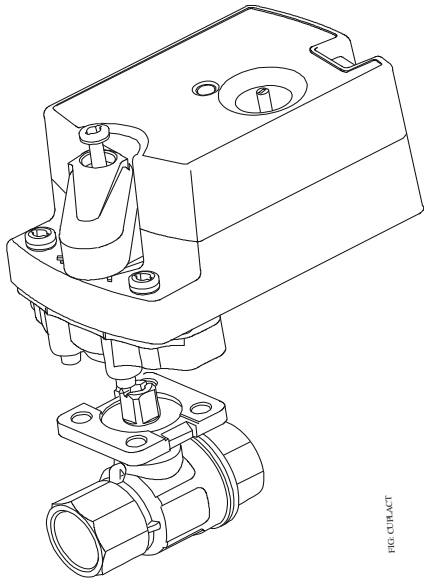

Figure 13: Coupling the Actuator to the Valve
11. Install the actuator and linkage assembly over the ball valve mounting flange, as shown in Figure 13. Depending on the application, position the assembly in any of four 90° increments on the valve.